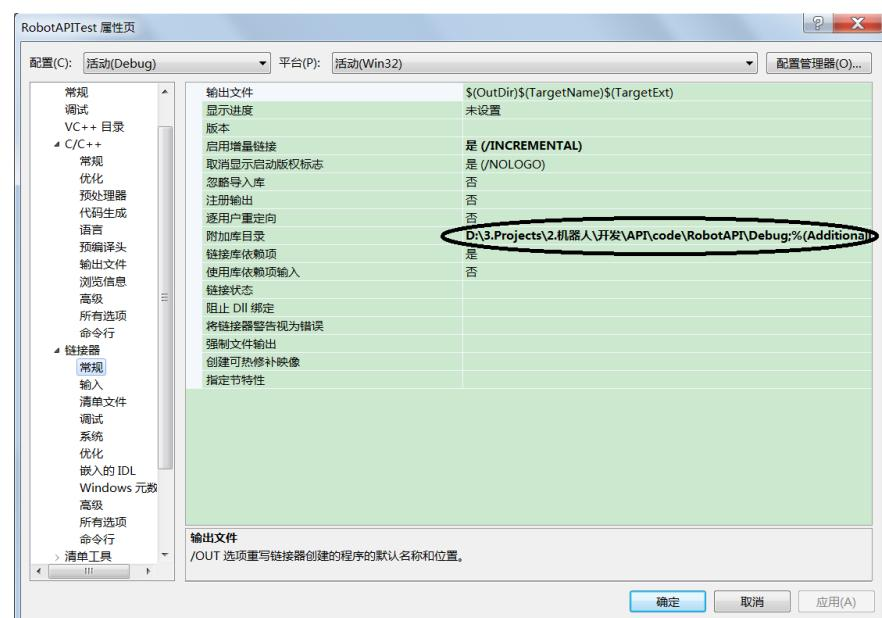

Figure 1-2 Add the directory where RobotAPI.lib is located in "Additional Library Directory"
Step2. Add the directory where RobotAPI.lib is located in the project properties-configuration properties-linker-general "additional library directory", as shown in Figure 1-2 below.